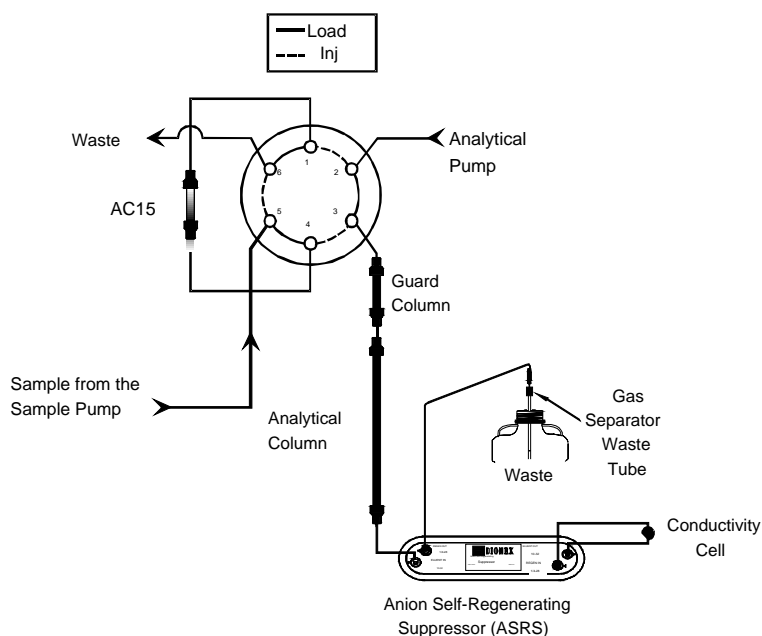

Figure 5
- C. Set up the Ion Chromatograph,** as shown in Figure 5, “Instrument Setup for the Determination of the Breakthrough Volume,” and equilibrate the concentrator column with eluent at the concentration flow rate needed to achieve a stable baseline.